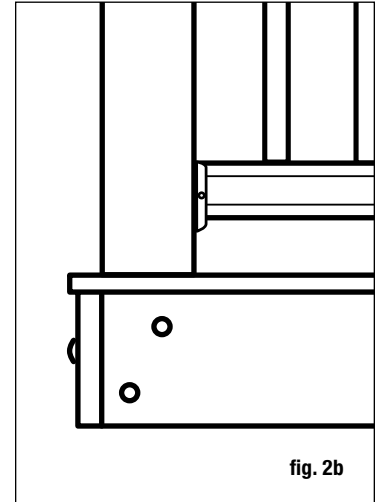

fig. 2b
Step 3 Position, plumb with a level, and clamp the rail post on the interior face of the joist. Plumb again. The 4x4 railing post should be bolted to the inside of the joists using two 1/2"x6" galvanized carriage bolts. Corner posts use a third carriage bolt inserted through the adjacent joist (fig. 2b).